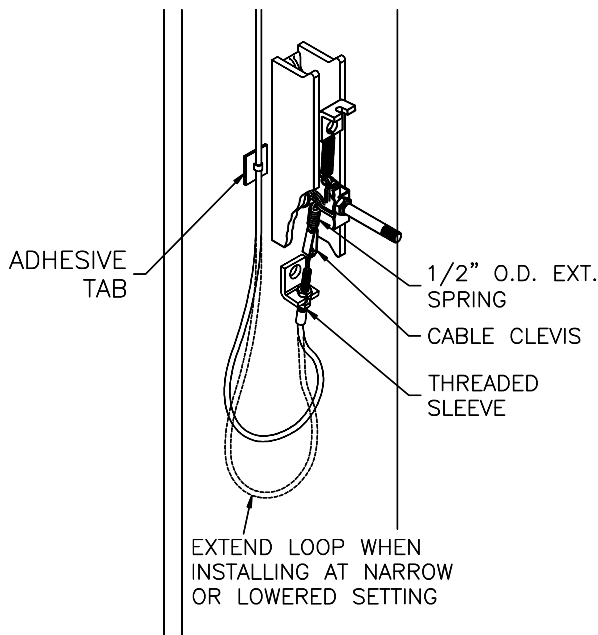

Fig 12 – Idler Column Lock Assembly
- 33) Attach Adhesive-Backed Tab to Idler Column left of the lock assembly (**Fig 12**). Route Lock Release Cable down left side of Idler Column and secure with loosely fit wire tie to Adhesive-Backed Tab. Attach Cable clevis to 1/2" O.D. Extension Spring.
- 34) Insert threaded sleeve portion of cable assembly in slot located on tab below lock pawl, **Fig 12**. With one jam nut located on each side of tab, adjust the threaded sleeve to begin to pull tension on the 1/2" O.D. spring. Snug jam nuts by hand.